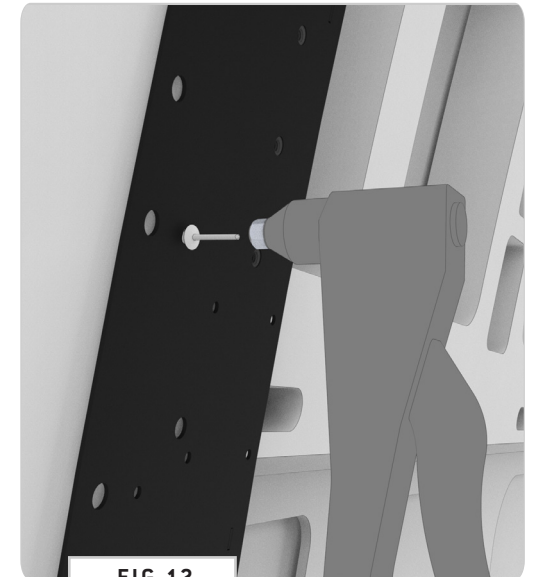

FIG 12
5.3 Install Rivets: After the paint has dried, install the **Rivets** (**FIG 12**).